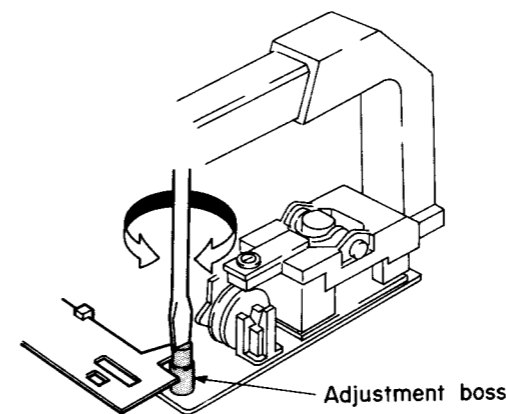

Fig. 7
- 1) Place AIWA test record (ATR-003) on the turntable, press the START/CUT button and turn the adjustment boss to adjust so that the auto-in count is 22 ~ 28. (Refer to Fig. 7)
- 4) Connect the oscilloscope to TP 2 (D sensor) and TP 3 (GND) (Fig. 7). (With 10 : 1 probe)